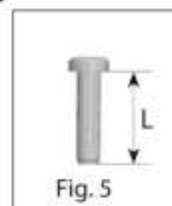

Fig. 5
4 Install the new STEPPER MOTOR pressure regulator assembly, as shown in Fig. 3 and Fig. 4. Use the supplied screws (F), M4 x 0.7 threaded, length of thread $L=(16\text{ mm} + 0 - 0.5\text{ mm})$, steel material, resistance class 8.8 (see Fig. 5).